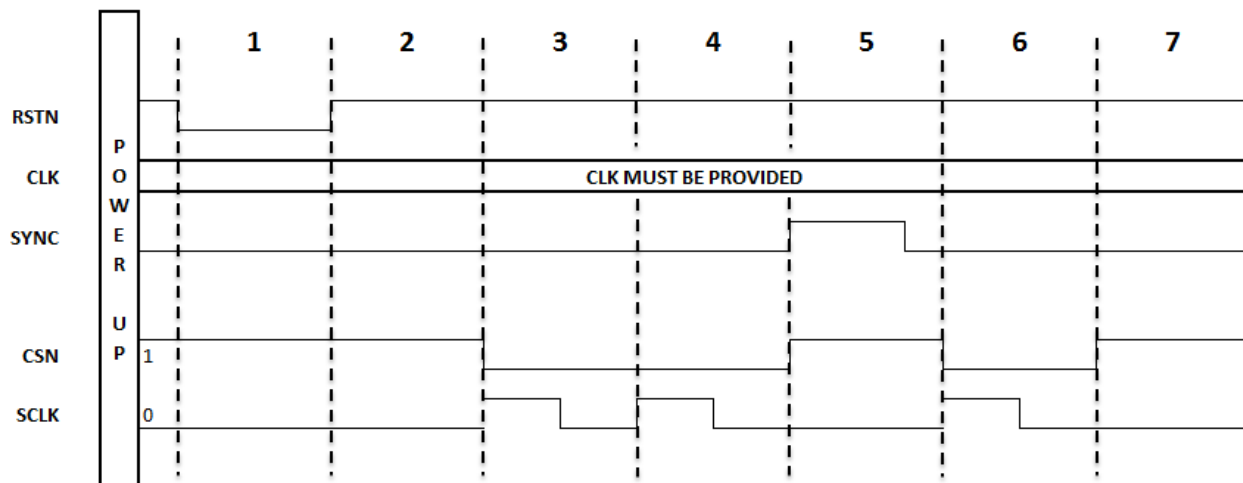

Figure 12: Start-up sequence when using the SPI interface
5. A pulse is applied onto the SYNCTRIG input to reset the internal clocks (SYNC signal in Figure 12). At this stage the bit 7 of register chip control must be at '0' (trigger mode disabled) – see section SYNCTRIG input;